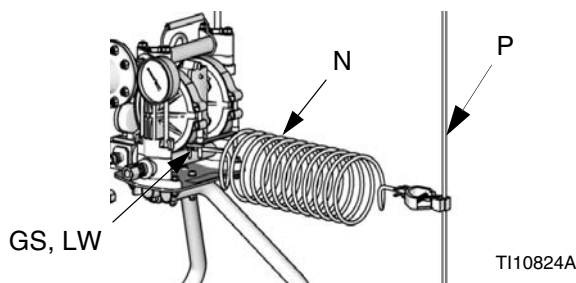

FIG. 1. Ground Wire
Pump: use the ground wire and clamp (supplied). See FIG. 1. Use the ground screw (GS) and lock washer (LW) to attach the ground wire (N) at the rear of the air motor. Tighten the screw securely. Connect the other end of the ground wire to a true earth ground (P).